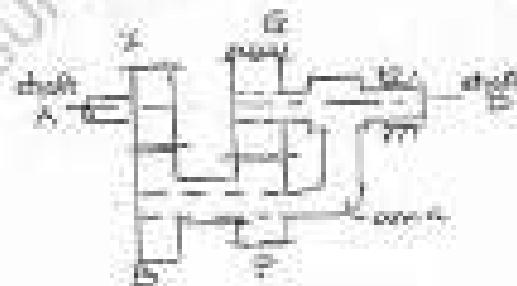

Fig. 2b
- b) An epicyclic gear train is shown in fig 2b. The arm 'a' rotates at 200 rpm. The gear 'F' with 20 teeth and gear 'B' with 40 teeth are compounded and rotate freely on the pin carried on the arm. The gear 'C' (30 teeth) is attached to the shaft. Find the speed of the shaft carrying gear 'C' and its relative direction to the arm. [10]